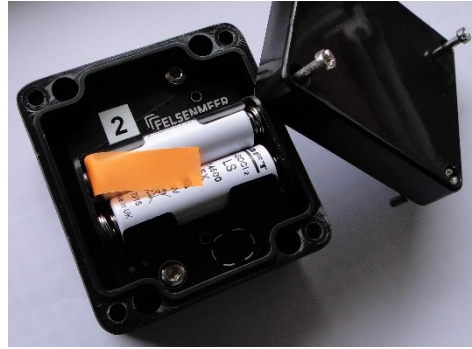

Figure 2: Opened housing, with isolation band
2. Remove the isolation band (see Figure 2) between battery and battery holder.